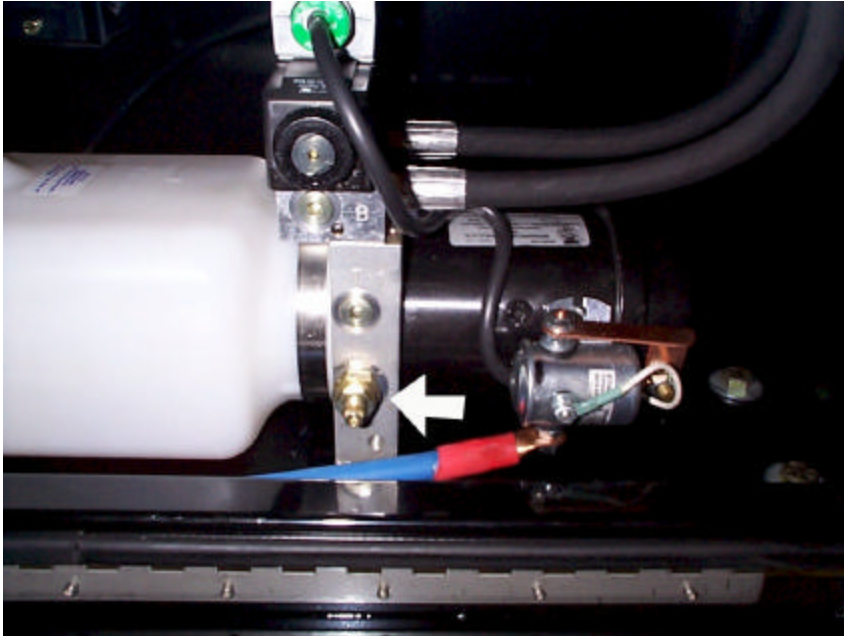

Figure 2
5. To increase pressure, first loosen the lock nut then turn in the Allen head screw on the front of the gold colored pressure relief valve on the hydraulic pump (**See figure 2**). If pressure does not increase, the relief valve may be clogged.